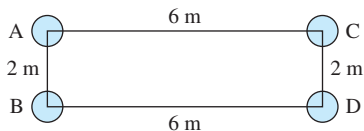

FIGURE P9.47 Single-phase, two-bundle transmission line.
9.47 (A) Calculate the capacitance per meter for the configuration in Figure P9.47. Each subconductor's radius is 5 cm; A and B are in a bundle, and C and D are in the other bundle.